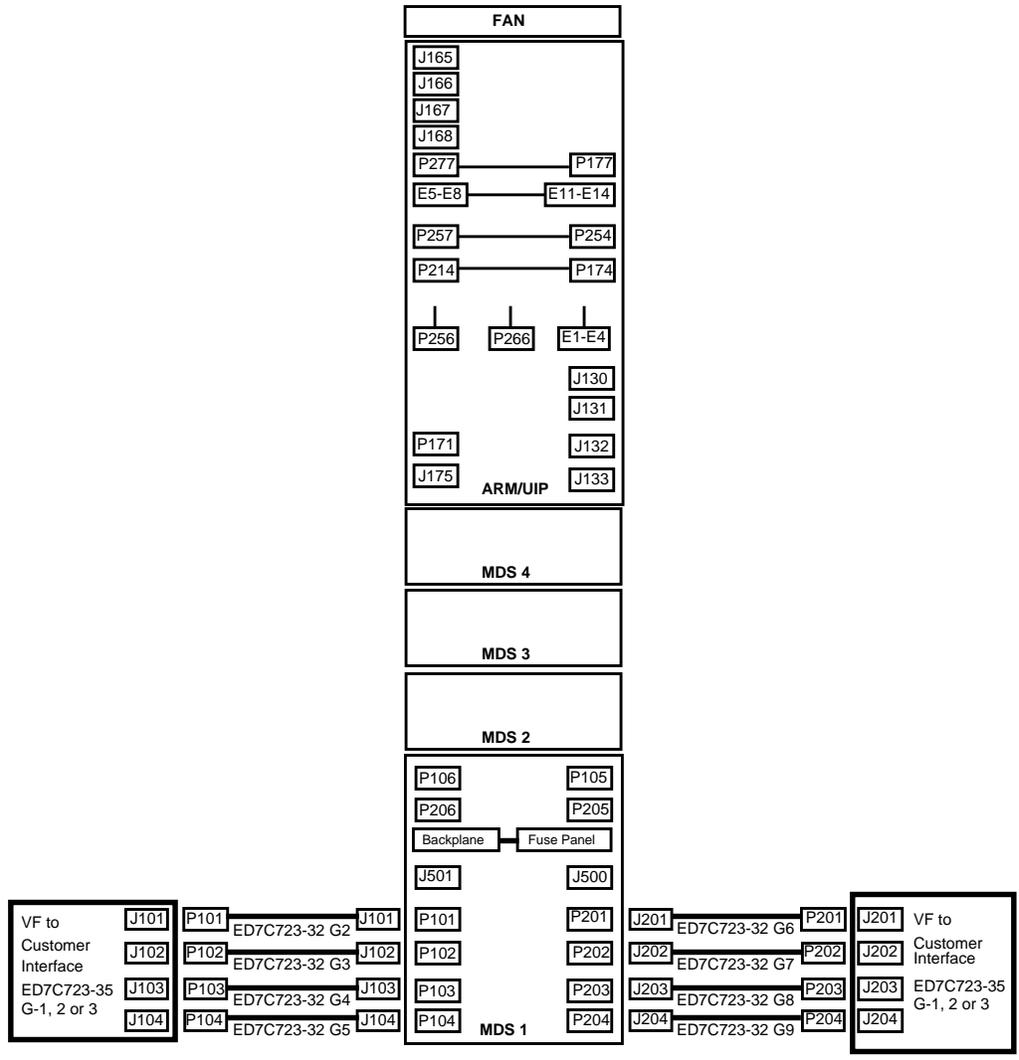

Figure 3-30. VF Bay Interface Cables
This procedure consists of installing the VF Customer Interface Cable Assemblies (ED7C723-35 Group 1, 2, or 3) and mating their connectors to the MDS Shelf Dangler Cable Assemblies (ED7C723-32 Groups 2 to 9, Figures 3-30 and 3-31) which have been furnished as part of the MDS assembly.
Step 1: Install the VF Interface Cable Assemblies in the appropriate duct and mate their connectors with the connectors of the MDS Cable Assemblies in accordance with Figures 3-30 and 3-31 and the table below: